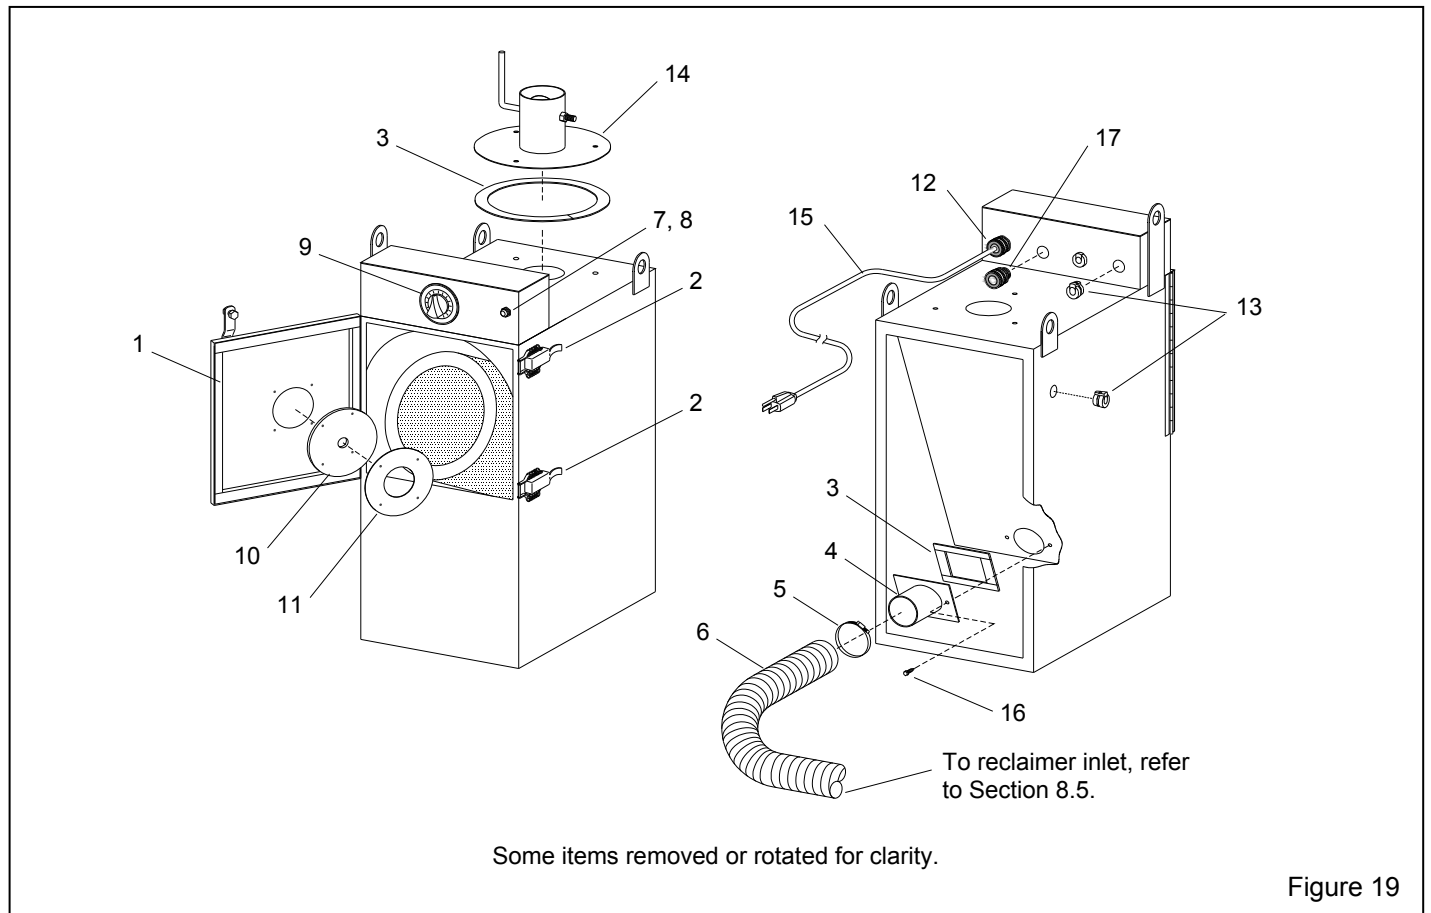

Figure 19
**8.2 Cabinet and Exhauster Assembly – Figure 19**